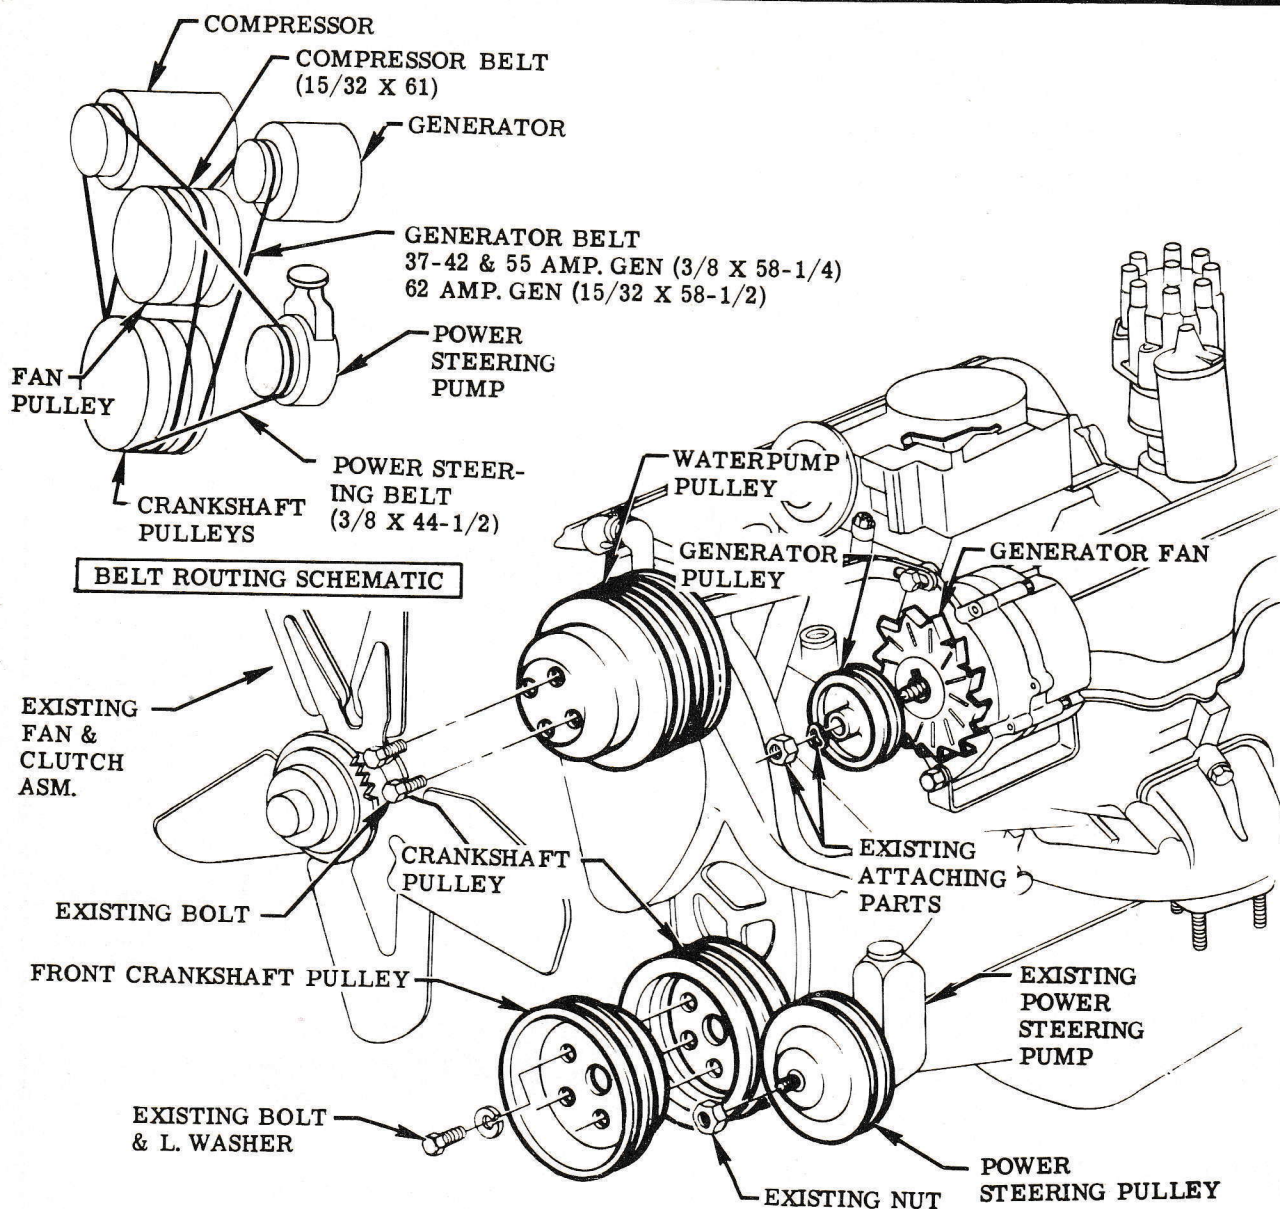

FIG. 1 FAN, BELTS & PULLEYS ("409" ENGINE WITH POWER STEERING)
STEP 5 INSTALL PROVIDED GENERATOR BELT ON REAR PULLEYS & PROVIDED COMPRESSOR BELT ON FORWARD PULLEYS. SEE SCHEMATIC IN FIG. 1. **NOTE** Adjust compressor on support until belt is tight, then secure nuts at pivot bolt & clamping bolt. SEE COMPRESSOR MOUNTING SHEET.
STEP 4 INSTALL PROVIDED POWER STEERING PULLEY WITH RETAINED ATTACHING PARTS. SEE FIG. 1.